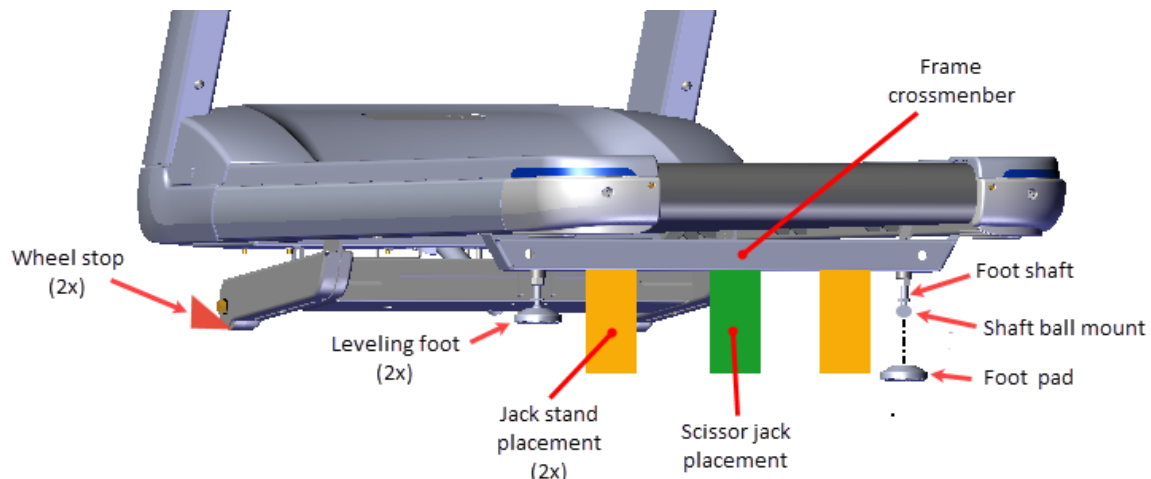

Figure 1
- 2 Place wheel stops in front of the treadmill front wheels to prevent forward movement (fig. 1).
- 3 Place a scissor jack underneath the center of the rear frame crossmember (fig. 1). Then raise the rear of the treadmill enough to allow removal of the plastic foot pad (approx. 4"-6" above the bottom of the foot pad).
- 4 Insert two jack stands (or support blocks approx. 8"-10" tall) underneath the left and right side of the rear frame crossmember next to the left and right leveling feet (fig. 1). Then carefully lower and set the frame crossmember onto the jack stands (or support blocks). Lightly push the frame back and forth to make sure that the frame is securely setting on the jack stands (or support blocks).
- a Grasp and rotate the plastic foot pad while pulling downward to unsnap and remove from the shaft ball mount (fig. 1). It is not necessary to remove the leveling foot shaft.